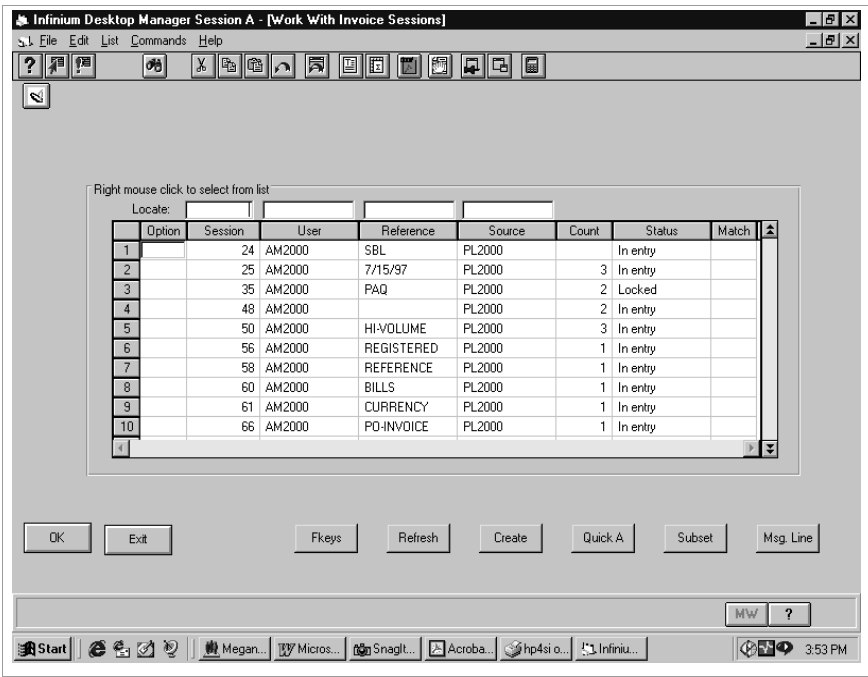

Figure 8-2: Work With Invoice Sessions screen
- 2 Select *Work with invoice entry* [WWI]. The system displays the screen shown in Figure 8-2.